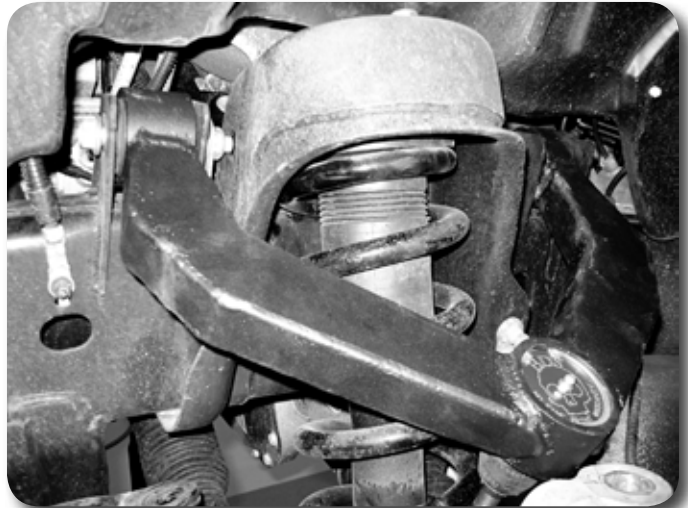

Figure 4
17. Grease the upper control arm assembly once installed. Fig. 4